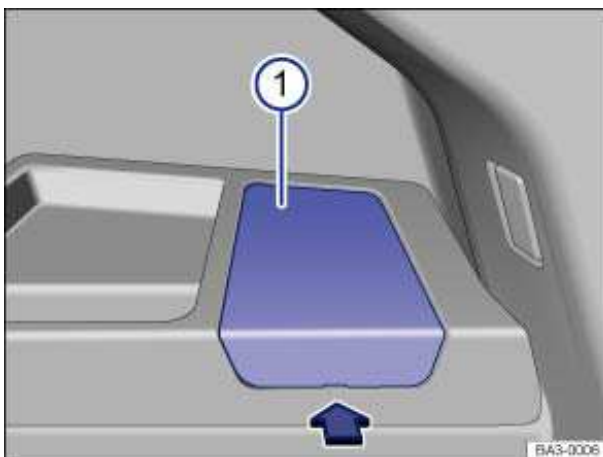

Fig. 164 At the right rear of the luggage compartment: AdBlue tank underneath a cover.
- Fold up cover ⇒ fig. 164 \(1\).